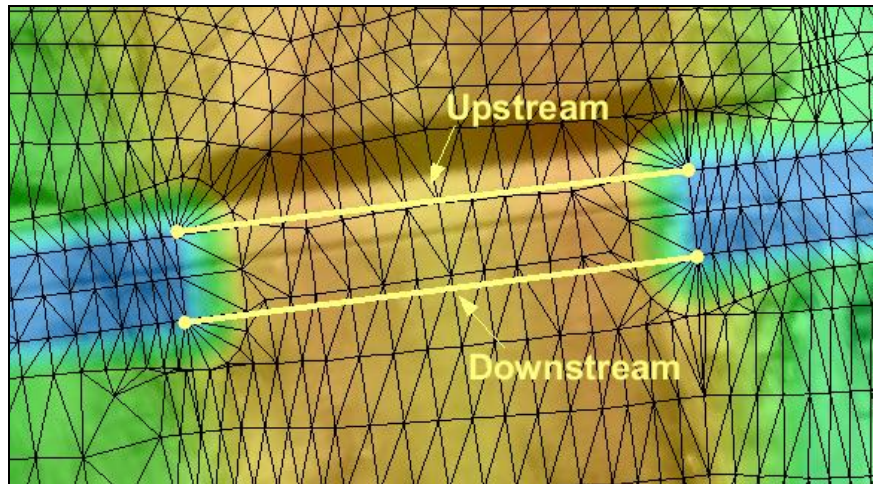

Figure 2 Location of the upstream and downstream bridge arcs
5. **Zoom**  in to the area near the bridge abutments, as shown in Figure 2.
7. Repeat step 6 to create the second arc as shown in Figure 2.